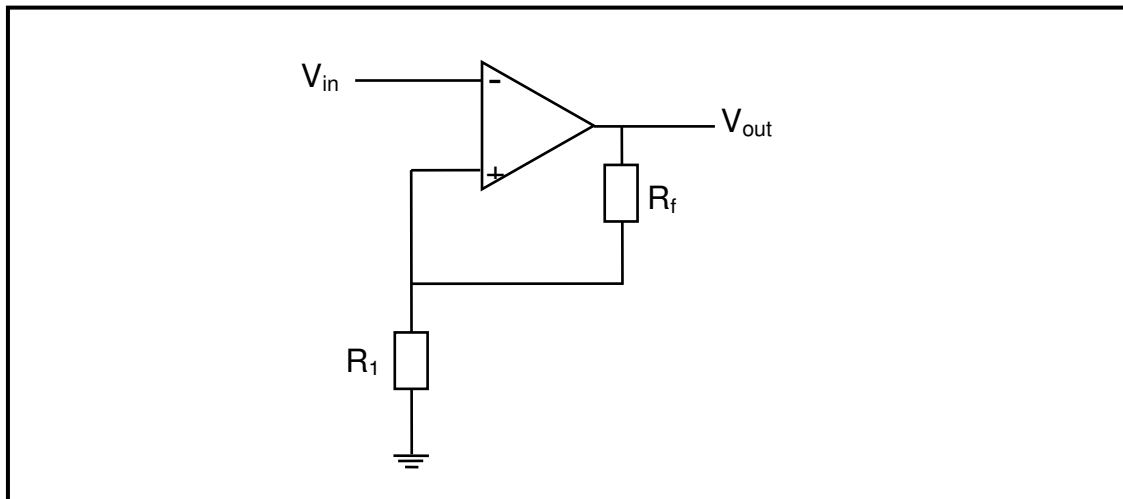

FIGURE 7.2: INVERTING SCHMIDT TRIGGER
7.7 Study FIGURE 7.2 and answer the questions that follow.
- 7.7.1 State TWO applications of the op-amp circuit in FIGURE 7.2. (2)